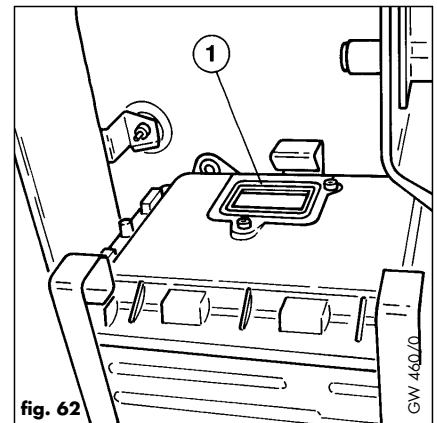

fig. 62
- Replace fan mounting gasket (1, fig. 62) with new gasket supplied with fan.
- Inspect fan gasket (1, fig. 62) and replace if worn or broken.